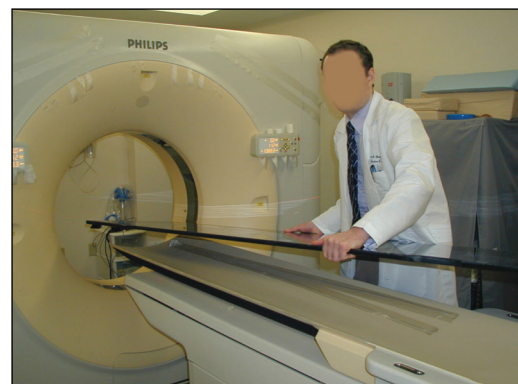
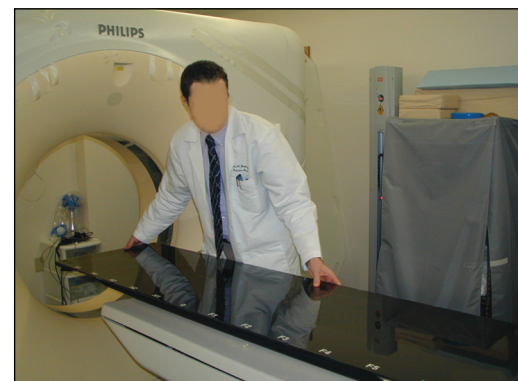

Fig. 32
Fig. 33
2. Place the CT Overlay on the CT cradle overhanging the head end by 3–4 inches (Fig. 32). Align the CT Overlay on the centerline of the CT cradle (Fig. 33).